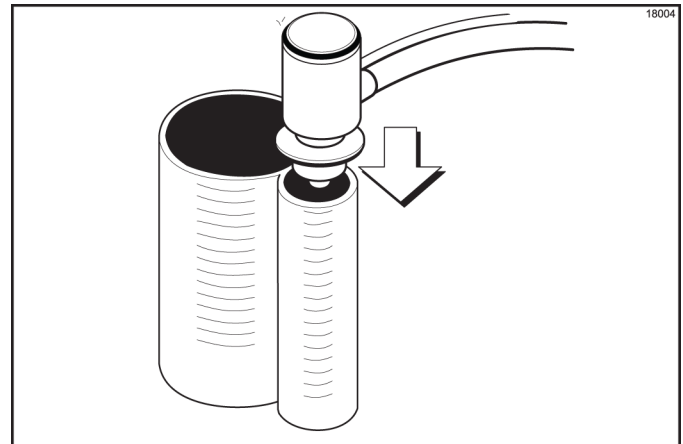

Figure 6-64
6. Hold the small portion of the calibrating cup under the syrup line with the syrup sampler. Press the CAL keypad. Press the AUTO keypad to check the rate of syrup flow. After 5 seconds the flow of syrup will automatically stop. If the amount of syrup received is 1 fl. oz. (30 ml), the syrup is properly calibrated. (See Figure 6-64.)